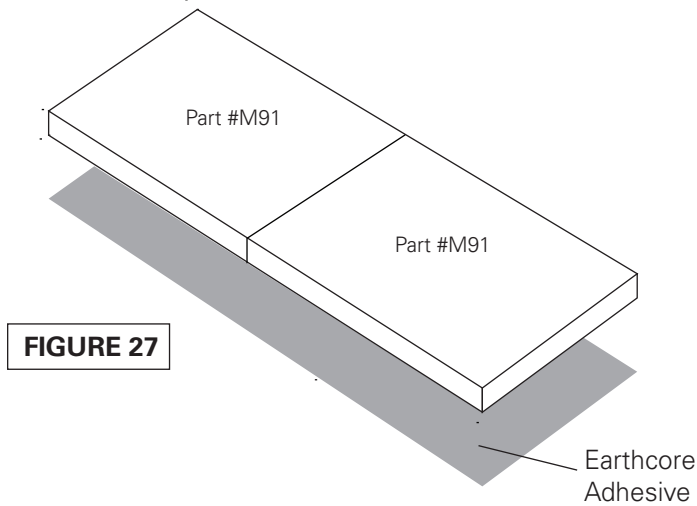

FIGURE 27
1. Apply Earthcore adhesive to the joint between the two part #M91's and set the base plates in a full bed of Earthcore Adhesive on a level support surface. See page 14 for supporting floor system. **(Figure 27)** Do not set the base plate so that it is in span. The overall length of the base plate assembly should measure 85½" and 28" deep.